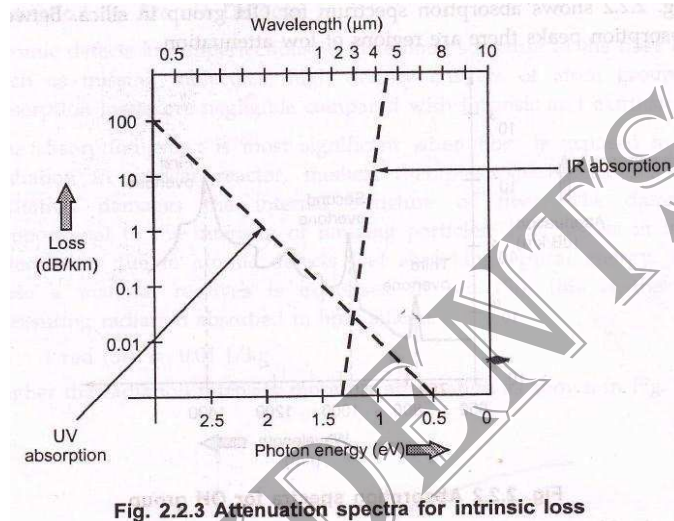

Fig. 2.2.3 Attenuation spectra for intrinsic loss
- x Attenuation spectra for the intrinsic loss mechanism in pure Ge is shown in Fig. 2.2.3.